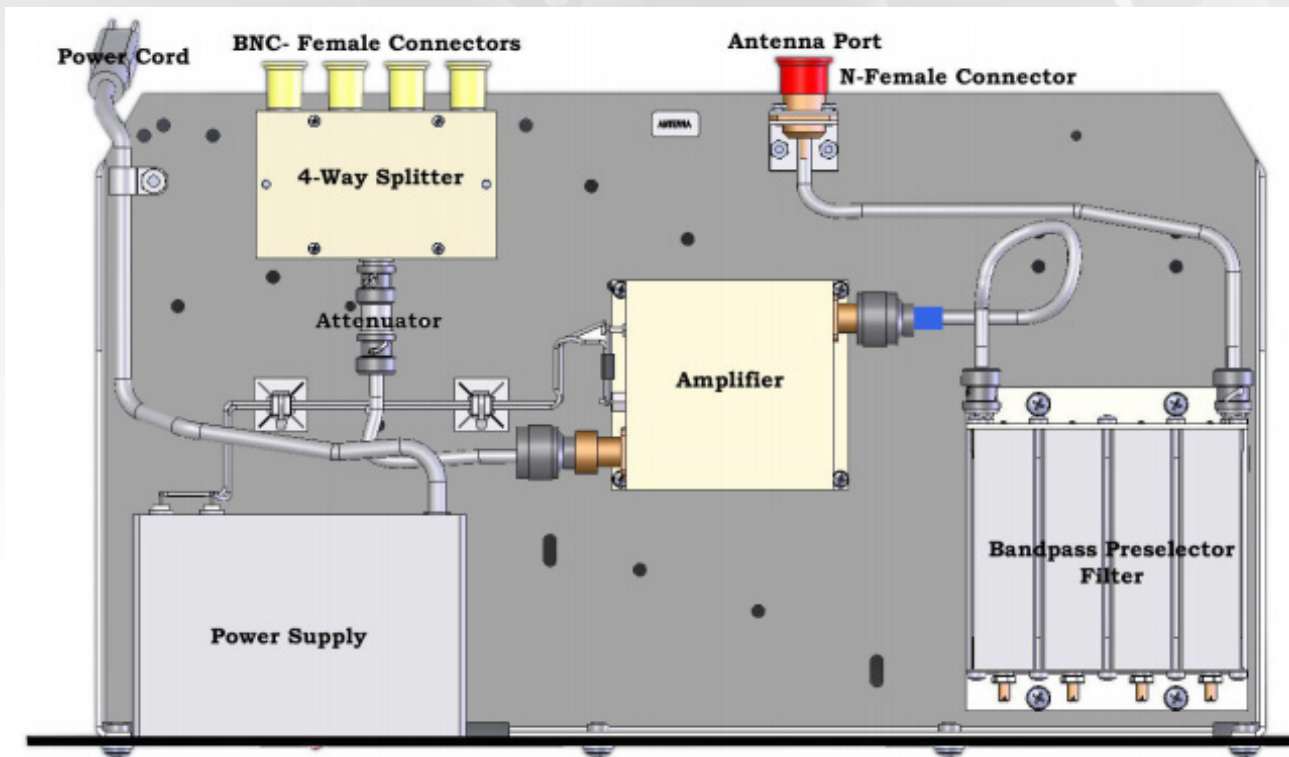

Figure 4: A receiver multicoupler showing physical component connections
The low noise amplifier increases the signal strength before it enters the divider. The amplifier is illustrated in the center of Figure 4. Since each division of the power divider weakens the individual signals by 3 dB, the amplifier is inserted as compensation for the signal loss encountered passing through both the preselector and power divider. In some situations the amplifier gain is also used to make up for antenna feed line losses. Attenuators are required after the amplifier, to reduce the amount of amplification. This will in turn keep the amplified signal from overloading the input stage of the receiver.
The power divider is often called a signal splitter. Each binary split of the power weakens the power fed into the divider by 3 dB. A 50% reduction in the input signal strength represents a 3 dB loss. In a 2-way power divider as shown in Figure 4, the signals are split once to provide two outputs. In the 4-way power divider shown in Figure 4, the signals are split twice to provide the four outputs. The signal arriving into a 2-way splitter is reduced by at least 3 dB before it arrives at any of the two output ports. Similarly, the signal arriving into the 4-way splitter is reduced by at least 6 dB before it arrives at any of the four output ports. In a receiver multicoupler system, the amplifier is used to increase the signal strength before the 4-way divider as shown in Figure 1. In order to produce more outputs, more power dividers, or as they are often called, signal splitters are used. Outputs are often configured to provide eight or 16 outputs.
The power supply provides a regulated and filtered direct current (DC) voltage to the amplifier. The power supply can be chosen to accommodate several different power sources. The power source can either be an alternating current source (AC) or a direct current power source (DC). The AC power source accommodates 115 to 220 volts AC with 50 to 60 Hz frequency. The DC power supply options include 12, 24, and 48 volts. An advanced receiver multicoupler option includes a DC power backup failover if the AC power is lost. The power supply is connected to the amplifier as shown in Figure 4.